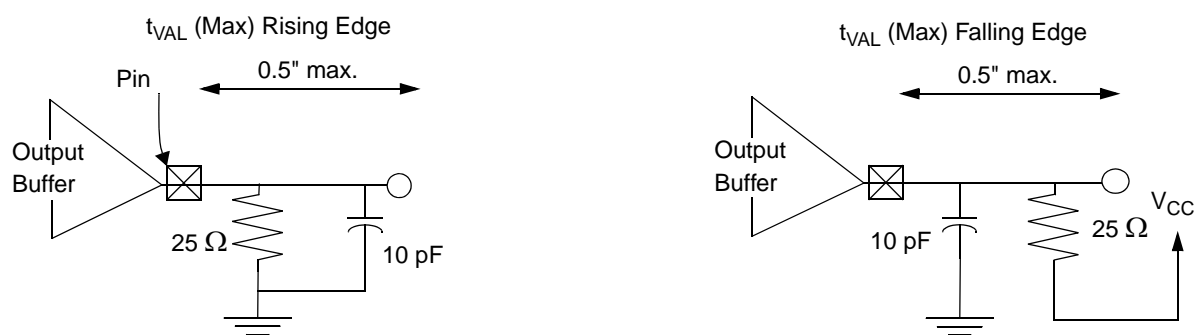

Figure 8-15. Load Circuits for Maximum Time Measurements
2. Minimum times are evaluated with same load used for slew rate measurement (as shown in note 3 of Table); maximum times are evaluated with the load circuits shown in Figure 8-15, for high-going and low-going edges respectively.